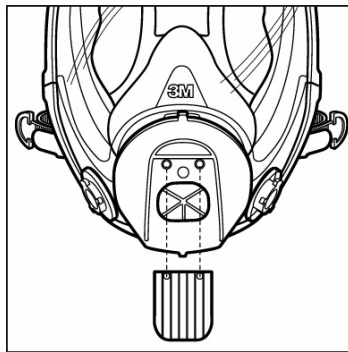

Fig. 15
4. Place new exhalation valve replacement over the exhalation port by inserting stems and pulling through from the opposite side until they are both snapped in place. (Fig. 15 and 16)